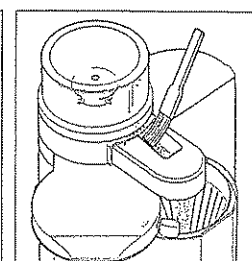

Figure 19
- Brush the coffee residue (including that from the rear of the channel) into the paper filter using a suitable item (e.g. paintbrush) (Figure 19). The coffee residue can also be removed using a vacuum cleaner.